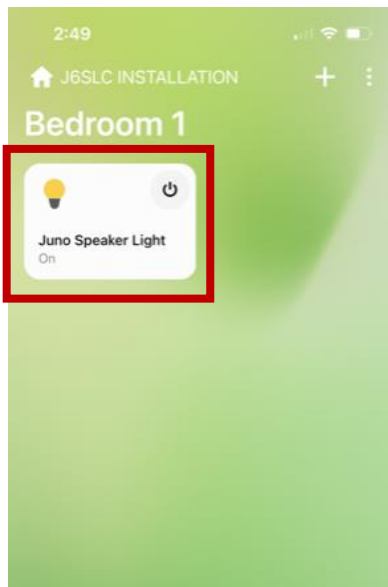

Figure 9
5. Select the unit on the SmartThings app. (Figure 9)